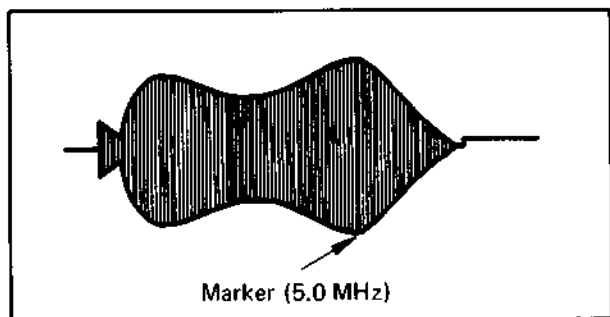

Fig. 6-20 RF signal
4. Adjust C18 (CH-1 RESON) so that the peak resonance at marker (5.0 M) becomes as shown in Fig. 6-20.